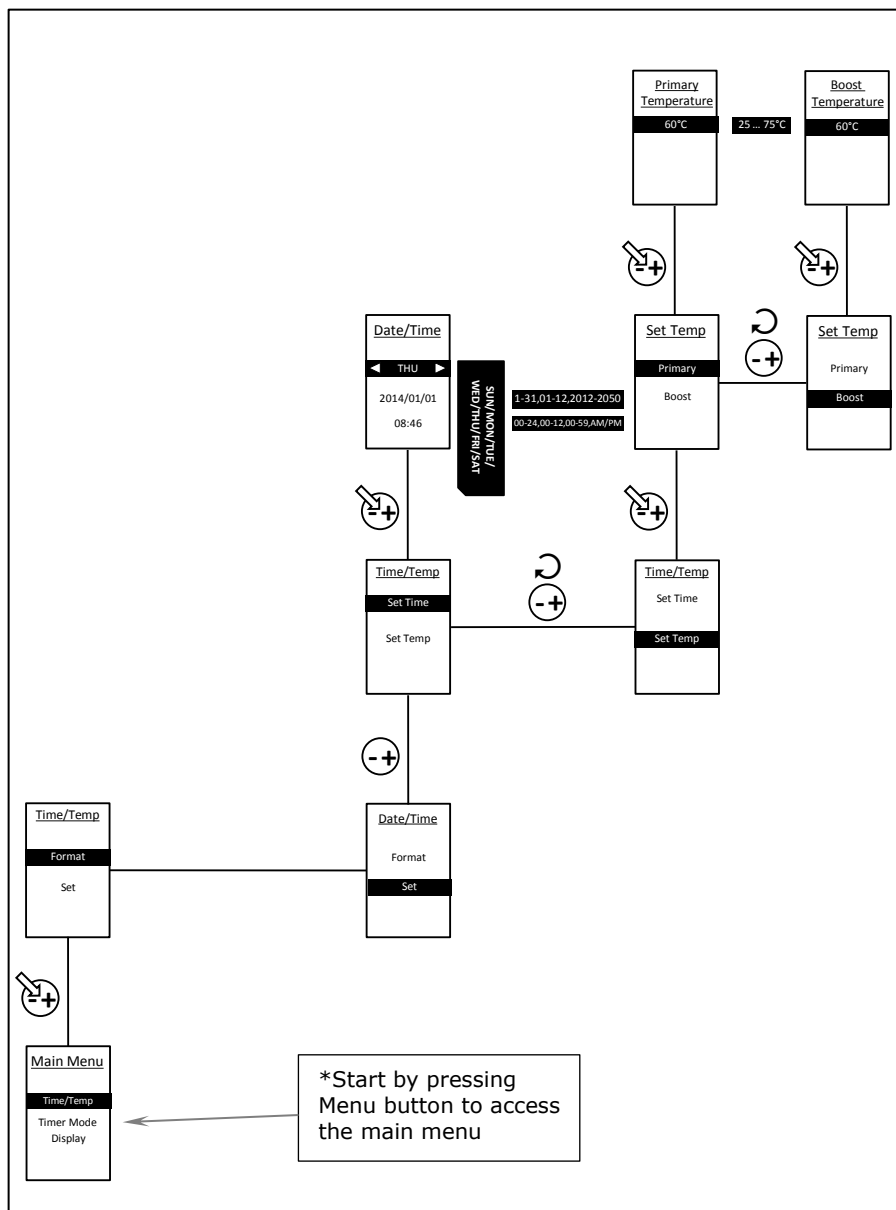

Figure 17: How to Set the Current Date, Time, Primary and Boost Temperature Set Point
- setting of date and time, primary and boost immersion heater set temperature (see Figure 17)